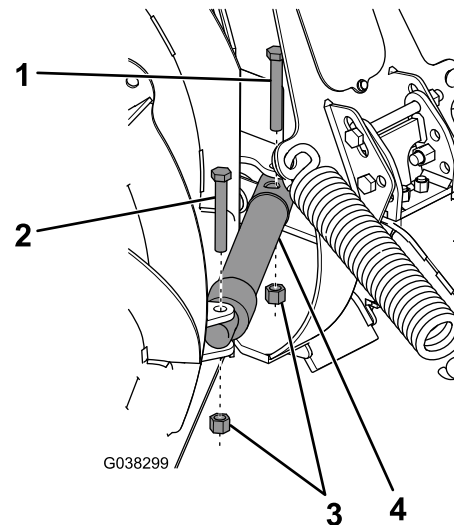

Figure 5
4. Attach the body end of the angle cylinders to the push-frame assembly using 2 hex-head bolts (3-1/2 inches) and top locknuts (Figure 5).
- Attach the rod end of the angle cylinders to the blades using 2 hex-head bolts (3 inches) and 2 top locknuts (Figure 5).